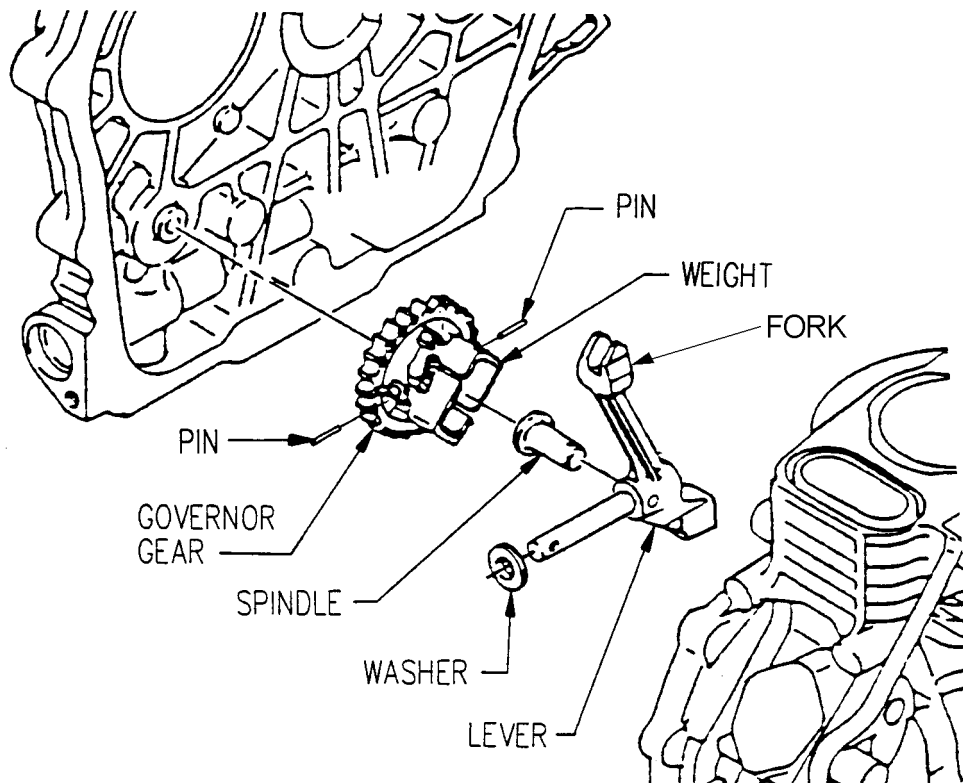
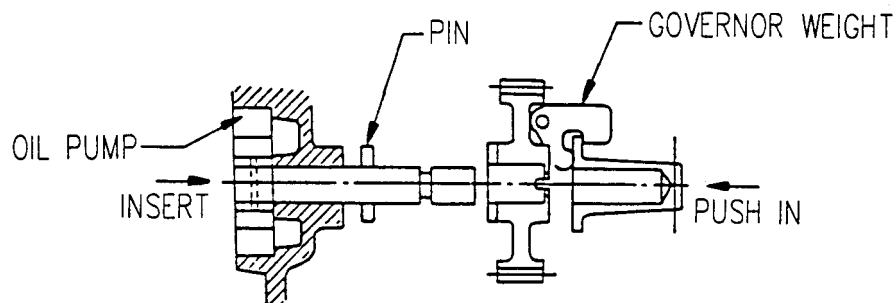

Figure 5-36. Governor Gear
Figure 5-37. Installing Governor Gear on Oil Pump Shaft
- (1) Shut down generator set.
- (2) Remove crankcase cover, refer to paragraph 5.16.a.
- (3) Remove governor gear and spindle from oil pump shaft (Figure 5-36).
- (1) Lift weight on governor gear (Figure 5-36), position spindle under weight, and install governor gear and spindle on oil pump shaft so pin seats in gear (Figure 5-37).
- (2) Place washer on lever assembly (Figure 5-36) and install lever assembly in cylinder block ensuring lever assembly is positioned over injection pump control lever.